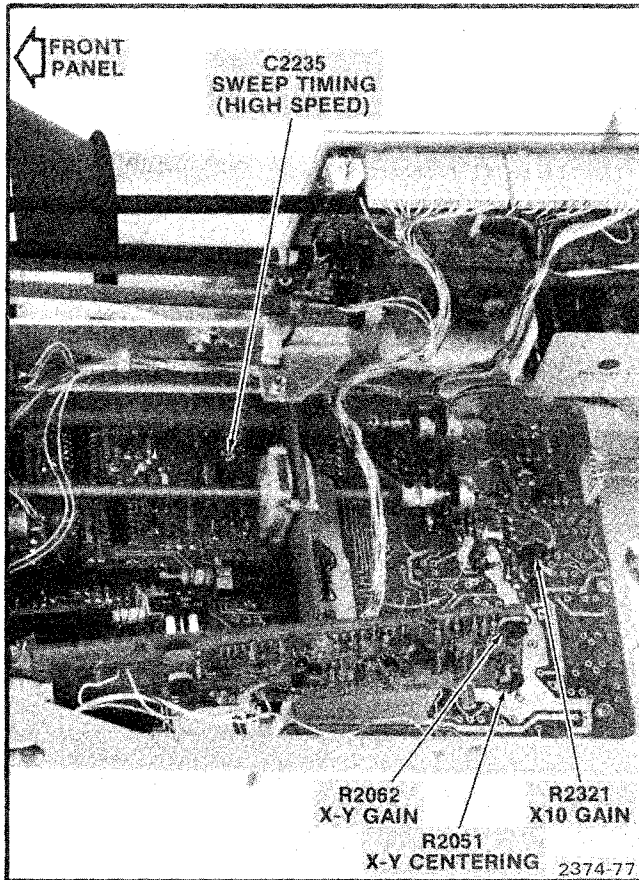

Figure 4-12. Horizontal adjustment locations on A12 Horizontal board and A11 Trigger Switch board.
c. ADJUST—X10 Gain (R2321, see Figure 4-12) for one marker per division over the center 8 graticule divisions (set POSITION and INTENSITY controls as required).
- c. ADJUST—High Speed Sweep Timing (C2235, see Figure 4-12) for one time marker per graticule division over the center 8 graticule divisions (use a low-capacitance alignment tool).
- c. ADJUST—X-Y Centering (R2051, see Figure 4-12) to position the dot to the center vertical graticule line.
c. ADJUST—X-Y Gain (R2062, see Figure 4-12) for two dots spaced 5 divisions apart.